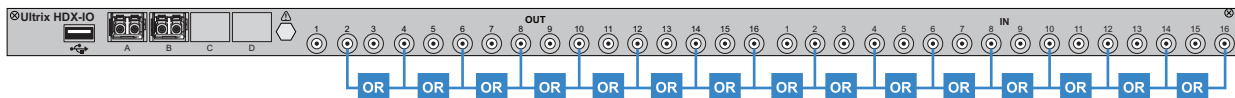

Figure 43 Example of UltraProc 3Gbps Mapping on a Single ULTRIX-HDX-IO Blade
**Figure 43** illustrates the connections allocated for UltraProc on the ULTRIX-HDX-IO blade for data rates up to 3Gbps.